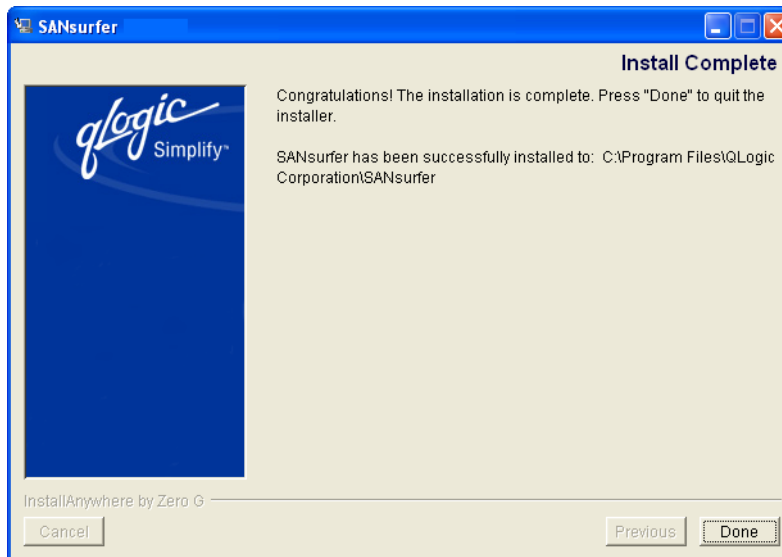

Figure 5-11. Install Complete Dialog Box
12. The **Install Complete** dialog box displays (see figure 5-11). Click **Done**.